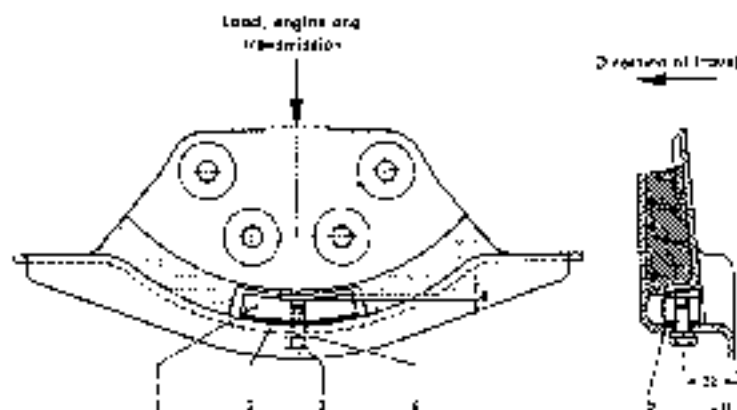

Fig. 24-1/4
Model 219 has an additional stop piece (1) in the rear rubber mounting in order to limit the vertical movement of the engine (Fig. 24-1/4). This stop piece can also be installed subsequently in cars of Model 220 a if complaints are received about a rattling of the gear shaft lever and in particular cases about the 3rd and 4th gear slipping out as a result of vertical and horizontal engine movements.